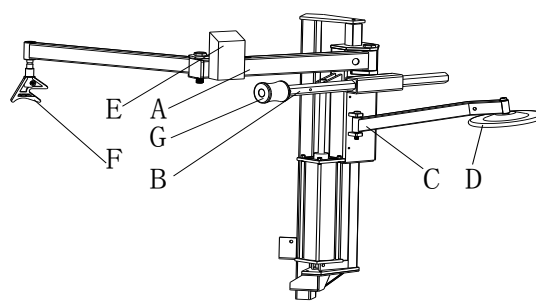

Fig 12
- 4) Install the Rotating arm (A)、 Hexagonal horizontal arm (B) and Tire lifting roller support (C) separately on the tire changer;(Fig 12)
- 5) Install the tire lifting roller (D)、 the switch (E)、 tire pressing head (F) and tire pressing roller(G) separately on the tire changer;(Fig 12)
Fig 12 shows functional parts to the 036 device:
Caution: The roller support can't be used for all tires, some tires need following operation: Move the mounting head above the rim; Insert the lifting lever in the clearance between the bottom tire bead and the rim, have the tire hung on the mounting head(Fig 12); Tread the power supply pedal to rotate the turntable. With the help of the mounting head, the tire is detached completely.